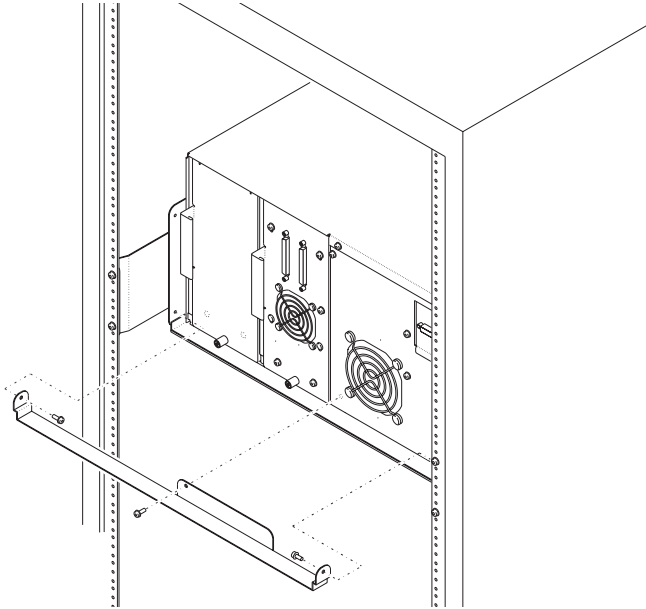

Figure 9-1 Removing the retention bracket
1. From the back of the library, use a T-20 TORX driver to remove the three screws that secure the retention bracket to the rack shelf, as shown in Figure 9-1.